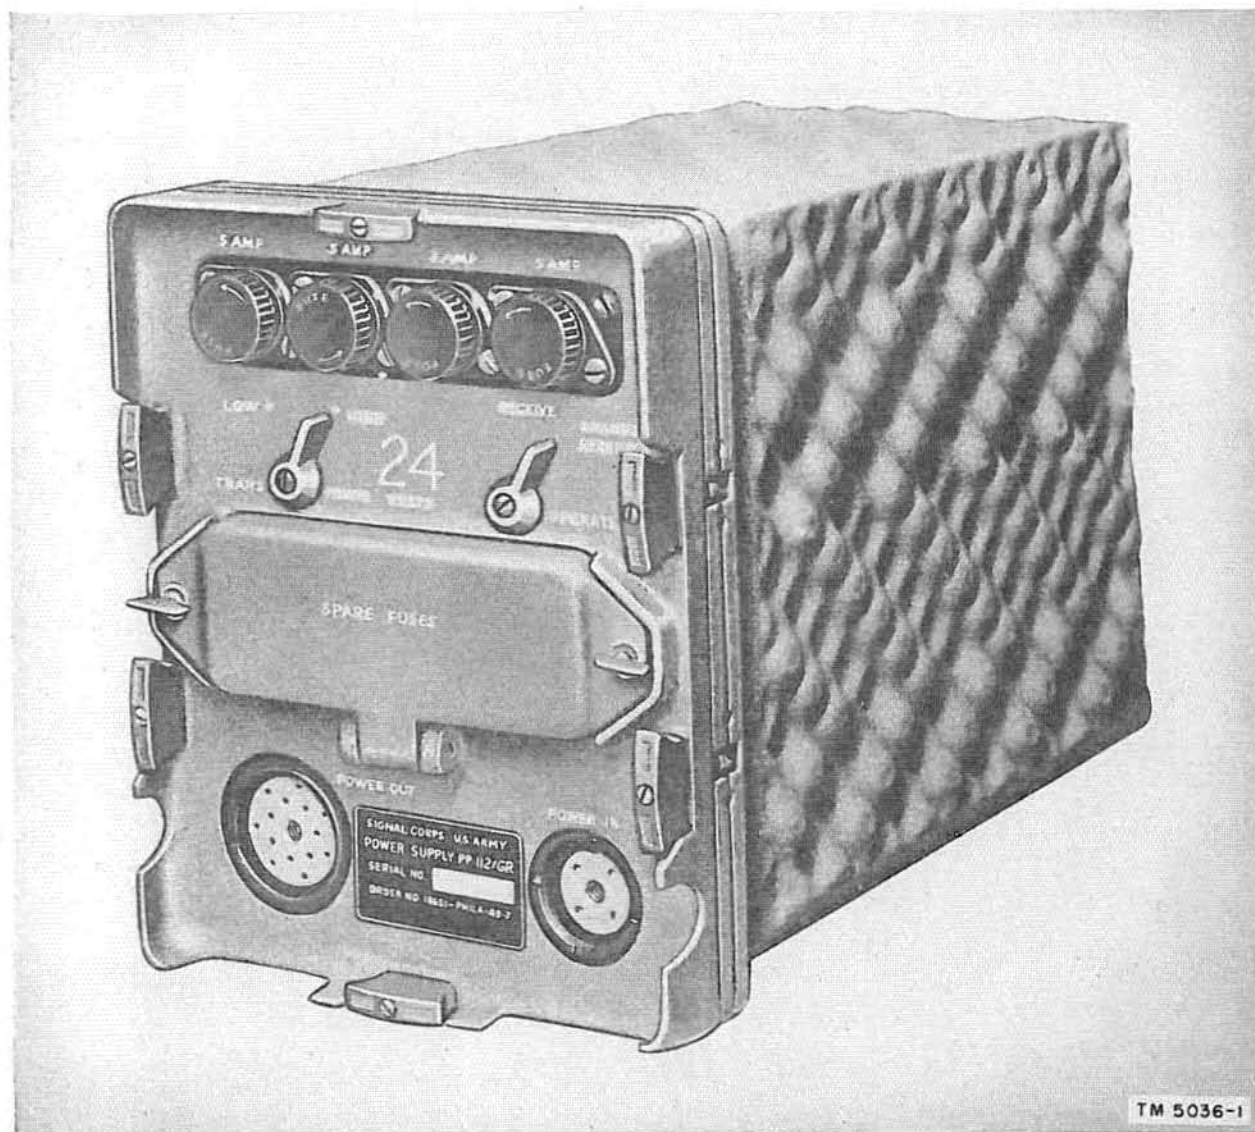

Figure 5. Power supply PP-112/GR, front view.
a. Either Power Supply PP-109/GR or PP-112/GR is used to furnish operating voltages for Set 1, depending on whether the vehicular storage battery supplies 12 or 24 volts, respectively. The two units are externally similar (fig. 5) and differ internally only in those circuits necessary to convert the battery voltage to the proper operating
b. The power supplies develop plate, screen, bias, filament, and relay potentials for the receiver-transmitters. The plate, screen, and bias voltages are developed by vibrator type power-supply circuits. Input battery voltage is supplied through a POWER IN receptacle on the front panel (fig. 5) and all output voltages are available at the POWER OUT receptacle on the front panel.